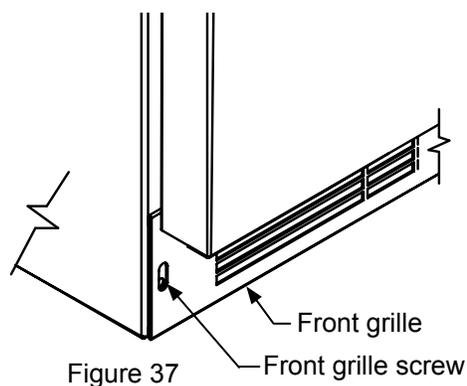

Figure 37
12. Remove the front toe-grille, (see Figures 37 and 38), and use a brush and vacuum to clean dirt and debris from beneath the unit.